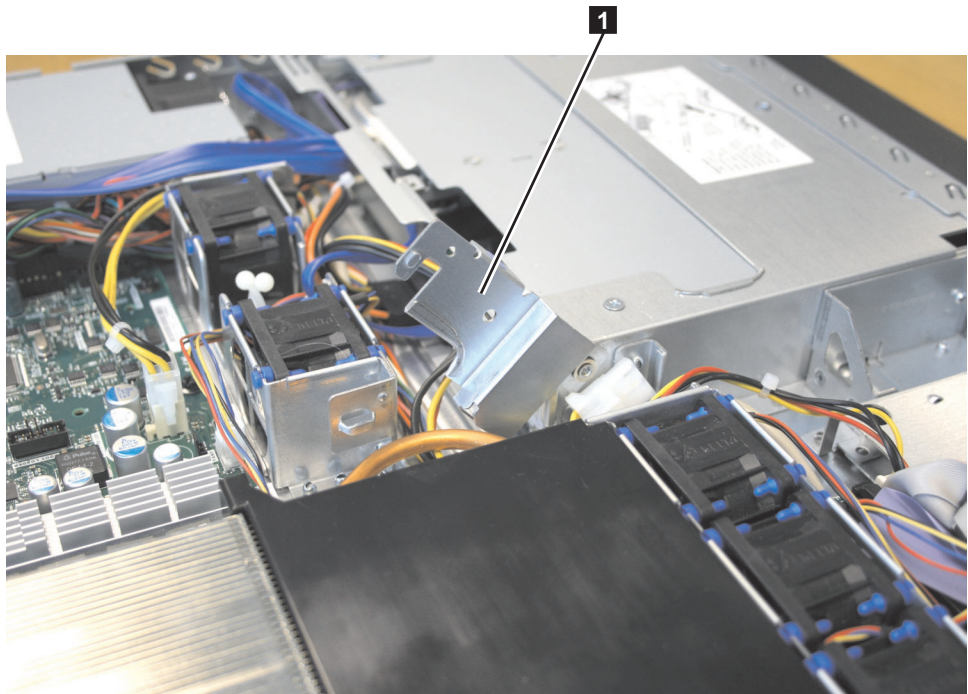

Figure 159. Air deflector for the SAN Volume Controller 2145-8A4 power supply
4. Make sure that the air deflector **1** is in the open position, as shown in Figure 159.